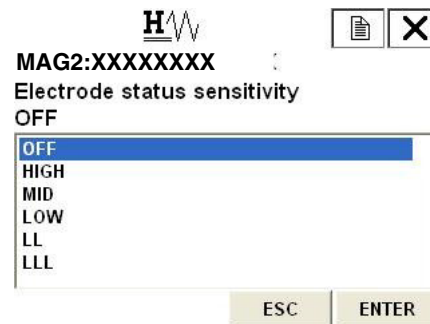

Figure 86.
Figure 86 is then displayed.
2. Once the display as shown Figure 86 appears, move the arrow key up or down to select a sensitivity. After marking a selection, press F4 (ENTER). OFF, HIGH, MID, LOW, LL, or LLL can be selected. If F3 (ESC) is pressed here, the selection is canceled and the display returns to the Noise immunity menu.